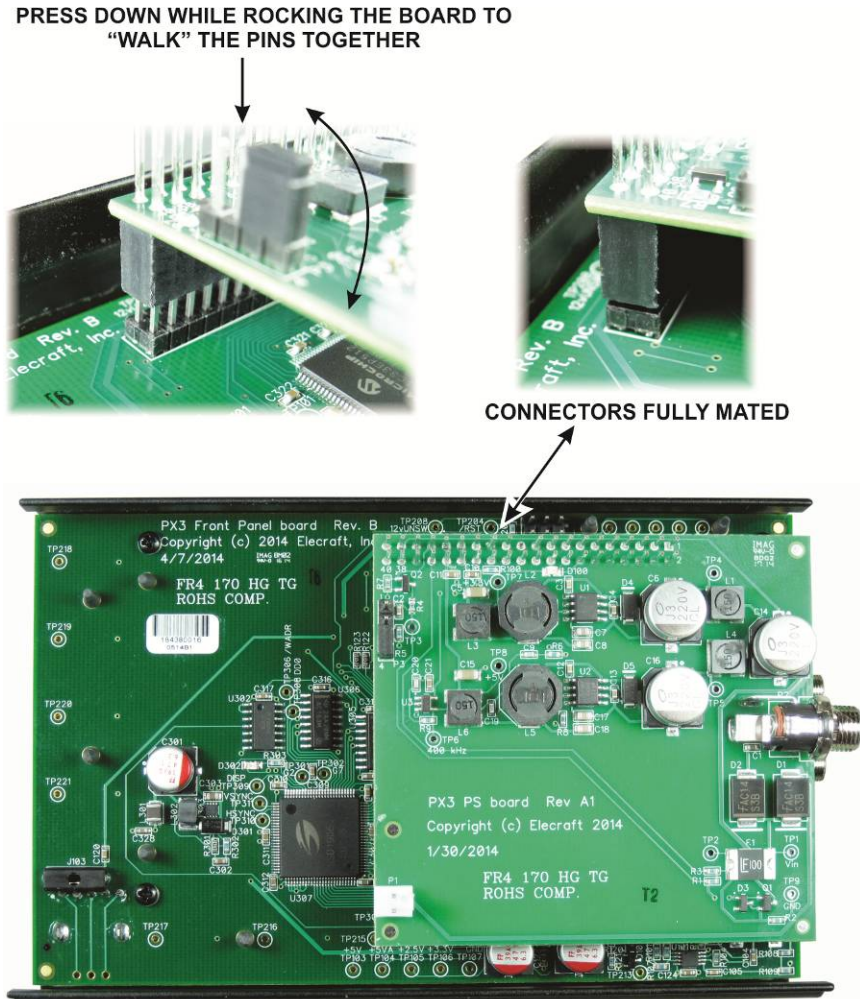
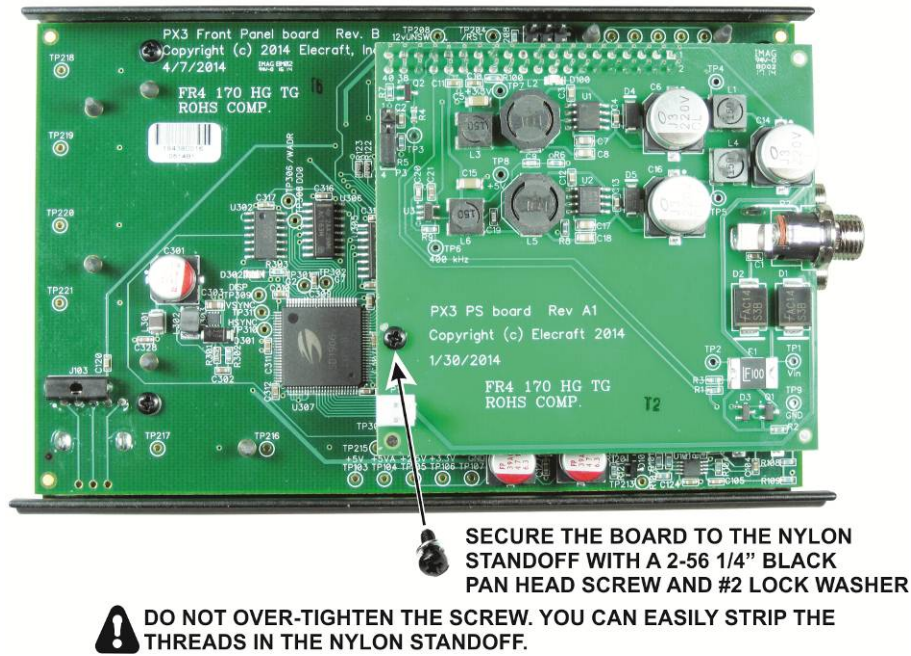

Figure 33. Mating the Power Supply Board Connectors.
Figure 34. Installing the Power Supply Board Mounting Screw.
□ Remove the power supply pc board from its packaging and mount it on the back of the front panel board as shown in Figure 33. Be sure the multi-pin connectors are properly lined up and fully mated as shown. The connectors fit very tightly.
- Attach the power supply board to the nylon standoff using a screw and lock washer as shown in Figure 34.
Remove the screw holding the power supply board to the front panel board (see Figure 34 on page 47) and then separate the connectors. Rock the power supply board while lifting it off as shown in Figure 33 on page 46 .